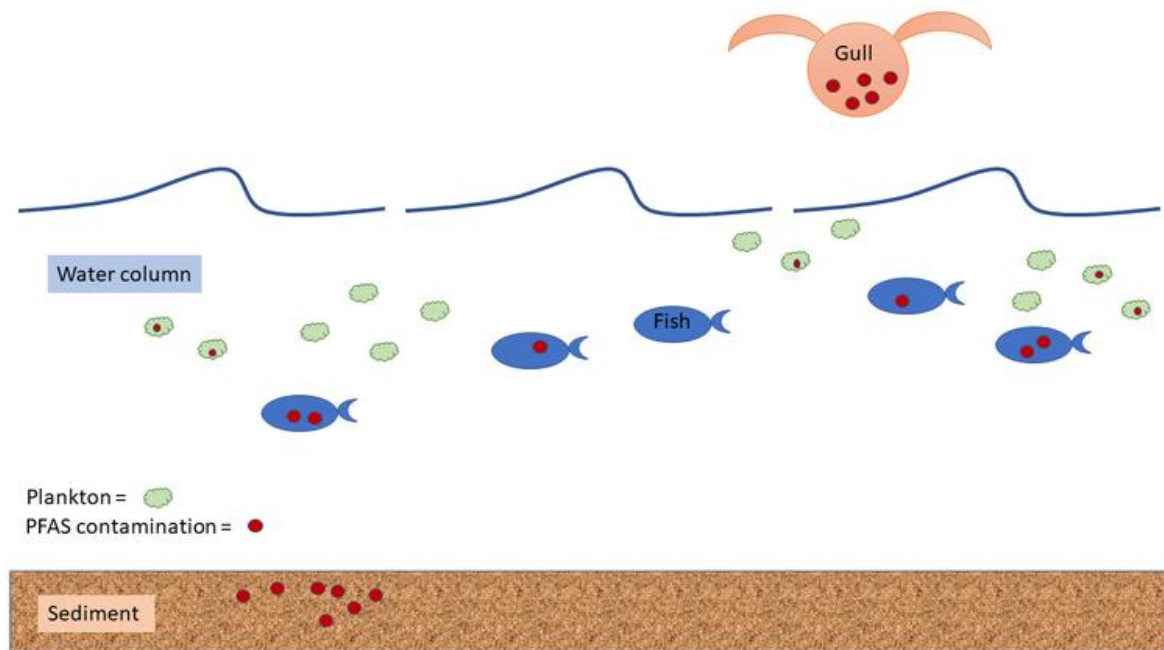

Figure 2: PFAS in sediments and water accumulating in marine organisms.
- Animals on land and water (see Figure 2)